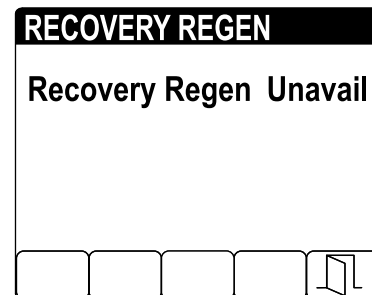

Figure 51
- If the engine computer has not requested a recovery regeneration and you select the RECOVERY REGEN option (Figure 51), Recovery Regen screen locks (unavailable).